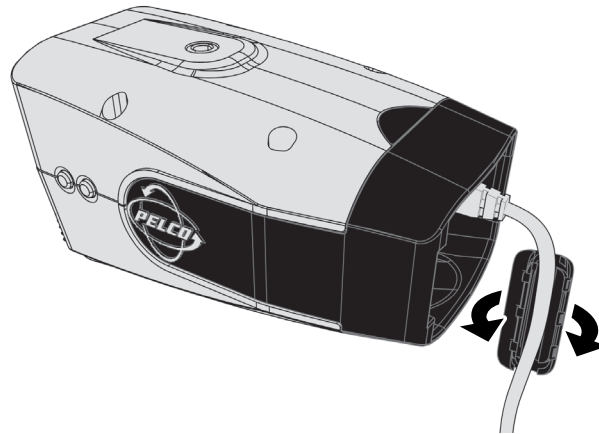

Figure 5. Ferrite Installation
4. For FCC Class B installations, attach the supplied ferrite to the network cable (refer to Figure 5). The ferrite should be installed on the cable approximately 1 inch (2.54 cm) from the camera's RJ-45 network port.